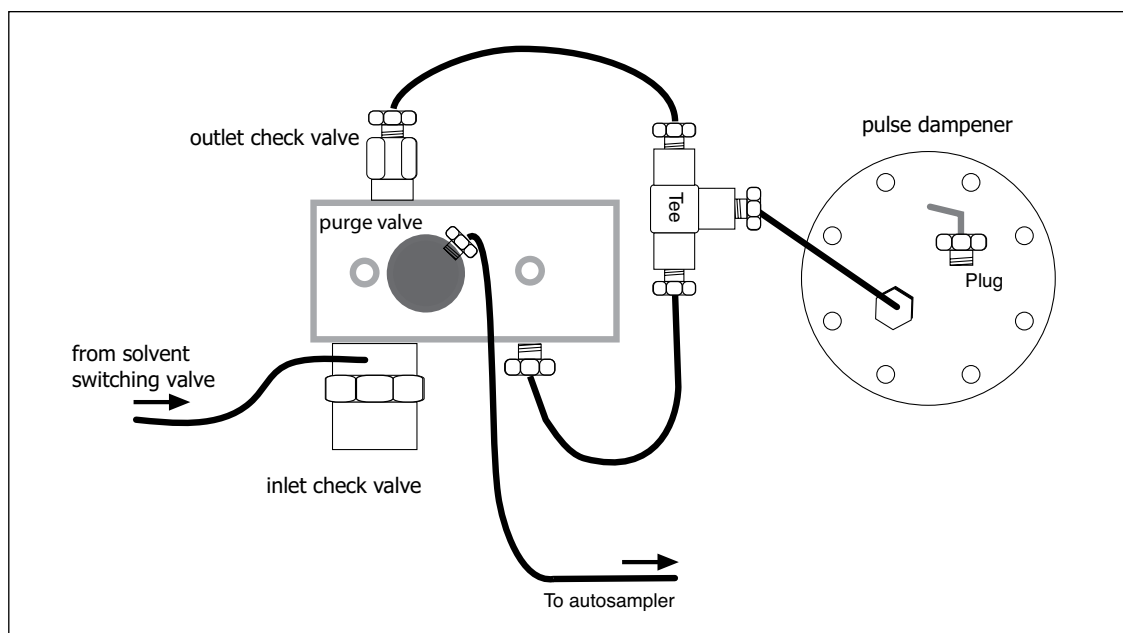

Figure 3-1
2. Connect a tee to the inlet of the pulse dampener. Connect a line from the outlet of the pulse dampener to a tee and place a high-pressure plug in the outlet. Connect the inlet and outlet of the pump through the tee (figure 3-1).